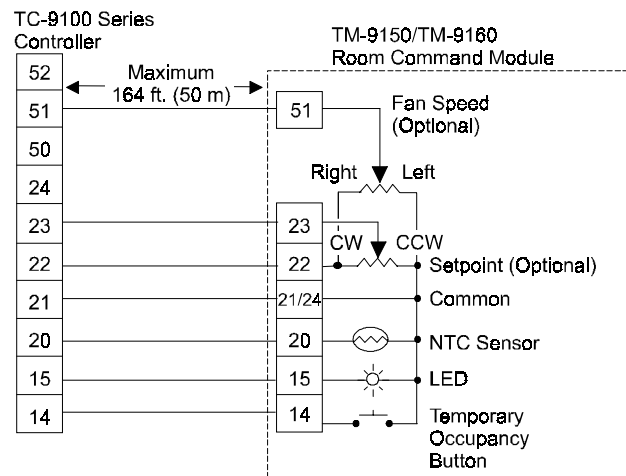

Figure 16: Wiring to a Room Command Module Using an Internal NTC (Negative Temperature Coefficient) Sensor
4. Wire to appropriate terminals as shown in Figures 16 and 17.
7. Wire to appropriate terminals as shown in Figures 16 and 17.
Make wiring connections to the terminal blocks in the base of the TM-9100 module using 24-14 AWG wire. Follow the wiring diagrams shown in Figures 16 and 17.